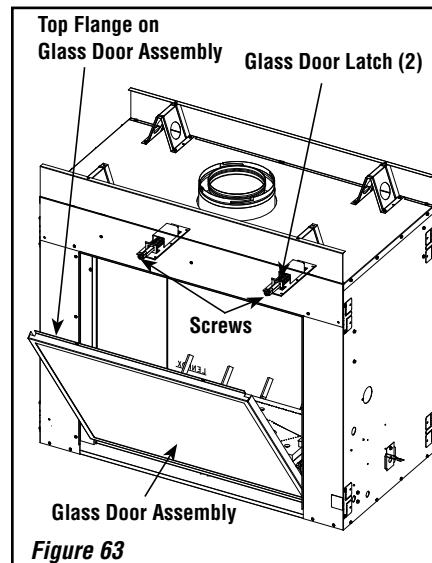

Figure 63
Installing Glass Doors, Barrier, and Modesty Panel (see Figure 63)
- b) Position the door in front of the firebox opening, with the top of the door held away from the fireplace (see **Figure 63**).
- d) Using a #3 Phillips screwdriver, fasten the door frame to the door latches with the two (2) latch screws. The latches should pull forward to engage the door frame.